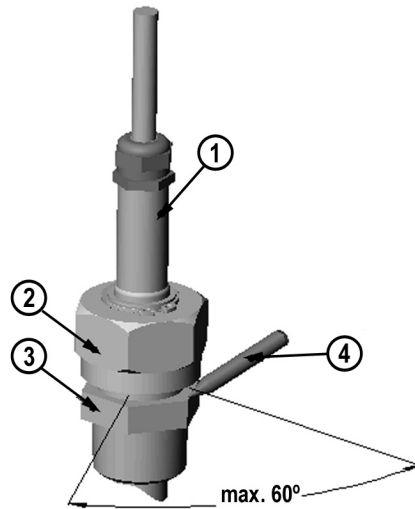

Figure 15 **Tightening the Clasp Nut**
The following numbers refer to Figure 15 on page 32:
10. Tighten the clasp nut with a fork spanner a further 50 ... 60° (ca. 1/6 turn). If you have a suitable torque spanner, tighten the nut to max 45 ± 5 Nm (33 ± 4 ft-lbs). Refer to Figure 15 on page 32.